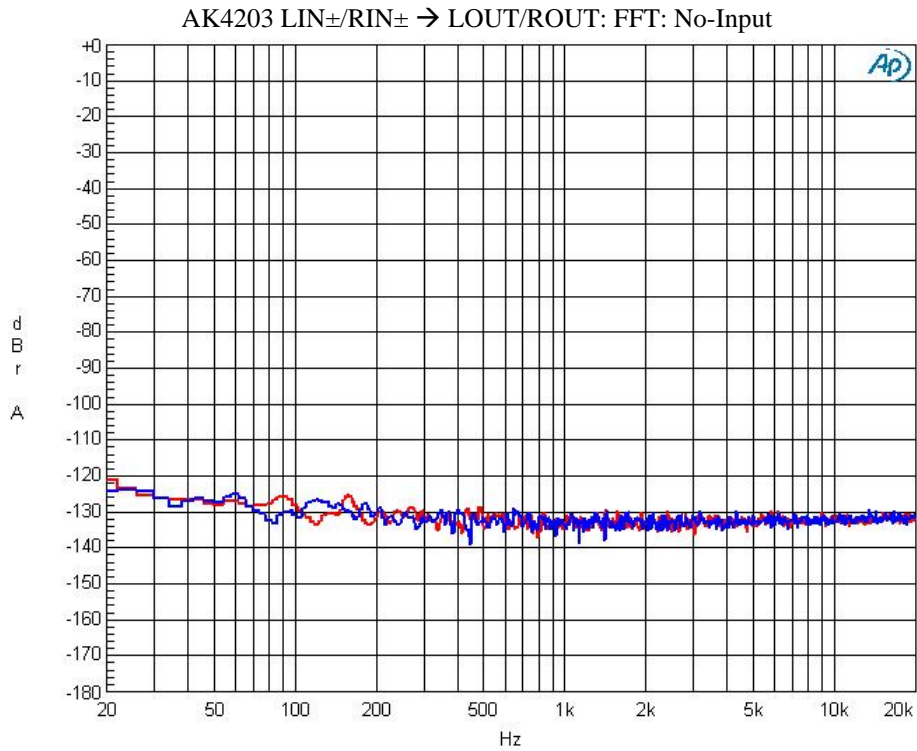

Figure1-3. FFT (Noise Floor)
- Figure 1-3. FFT (Noise floor)